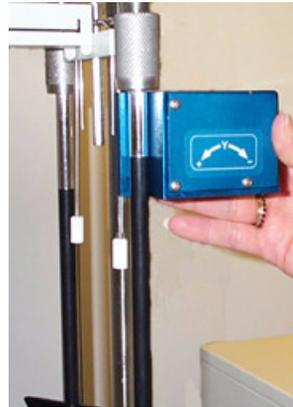

Figure 17 Electronic Level Sensor Placement
- 2 Hold the level sensor flush against the shaft. The perpendicular groove of the sensor should be placed high up on the shaft, approximately 1 inch or 25.4 mm below the bottom of the dissolution apparatus drive unit. This sensor measures in degrees the verticality or perpendicularity of the shaft from side-to-side and front-to-back simultaneously. See Figure 17, “Electronic Level Sensor Placement,” below.